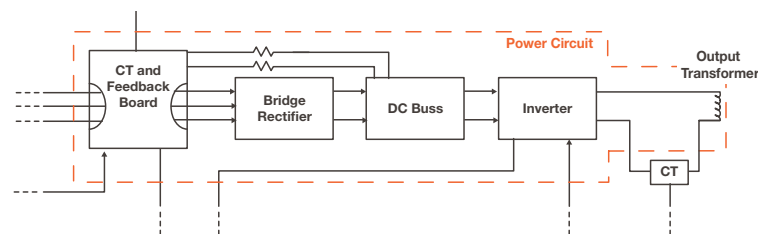

Figure 3-10: Power Circuit Block Diagram
**Figure 3-10** represents the power circuit block. Here a 390-490 VAC 3Φ 50/60Hz supply voltage is fed through the protection circuit block into a 3Φ full wave bridge rectifier where it is converted into DC power. The purpose of the inverter is to convert the DC power into a higher frequency AC power required for the output circuit's load. The inverter consists of MOSFETs arranged in a full bridge configuration. Inverter current is measured here and fed back to the control system.